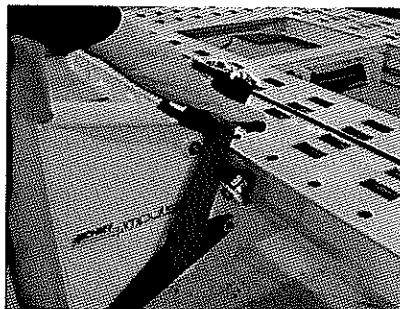

Figure 18
2. Rotate Sure-Lock lock handle forward to fully open Sure-Lock. (See Figure 18.)